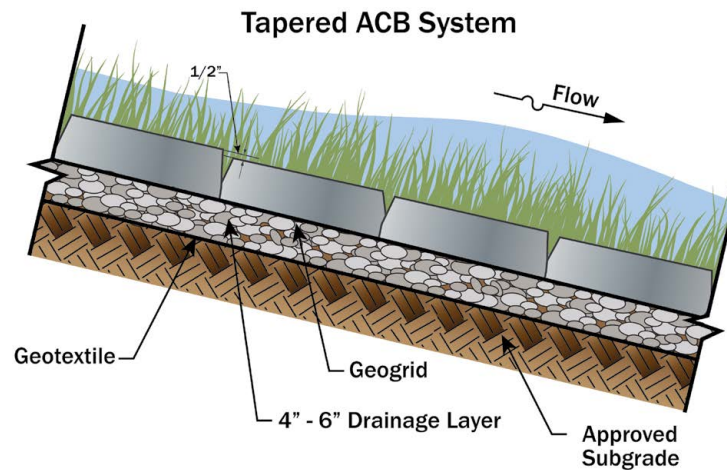

Figure 2.1.2. Typical ACB cross-section.
- Articulating concrete block (ACB): stabilizes channel and canal bottoms that experience open flow Figure 2.1.2.